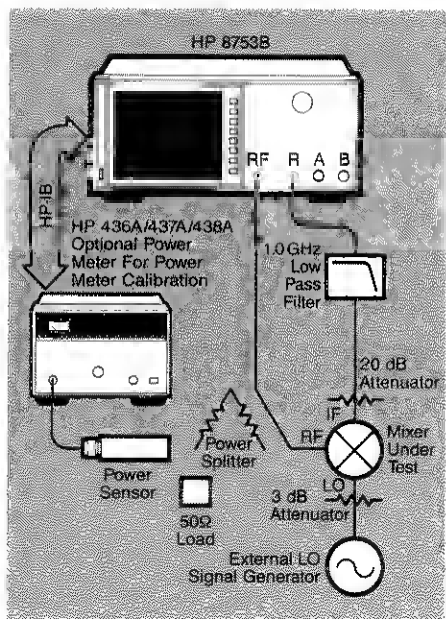

Figure 12. Block diagram for a conversion compression measurement.
5. Connect the instruments as shown in figure 12.
To enhance measurement accuracy, insert a power splitter between the RF source and the mixer's RF port. Connect the power meter (shown in figure 12), to the power splitter's open port. Perform a one sweep power meter calibration.